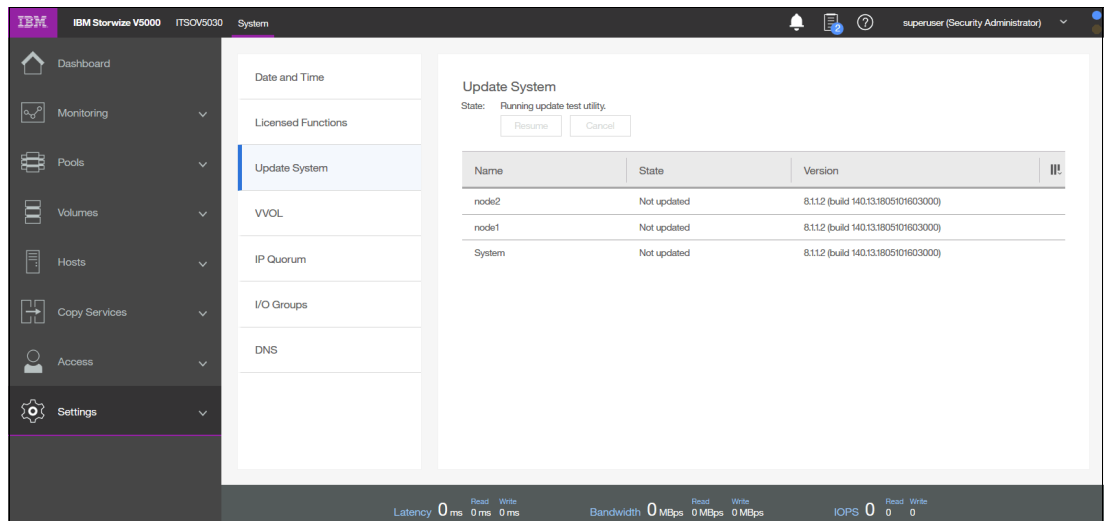

Figure 12-37 State while the test utility runs
- After the files upload, the test utility is automatically run, as shown in Figure 12-37. The test utility verifies that no issues exist with the current system environment, such as failed components and drive firmware that is not at the latest level.